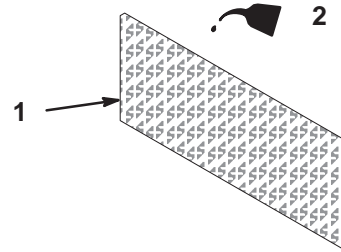

Figure 21
3. Put one or two ounces (59 ml) of oil on the element (Fig. 21). Squeeze the element to distribute the oil.